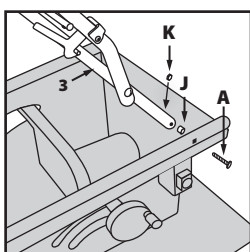

Fig. 7
- Attach component **4** in its service position on the machine. See that the position of the latching lever and pin is on the same side as the rise and fall/bevel adjustment hand wheel. **(Fig. 7)**.